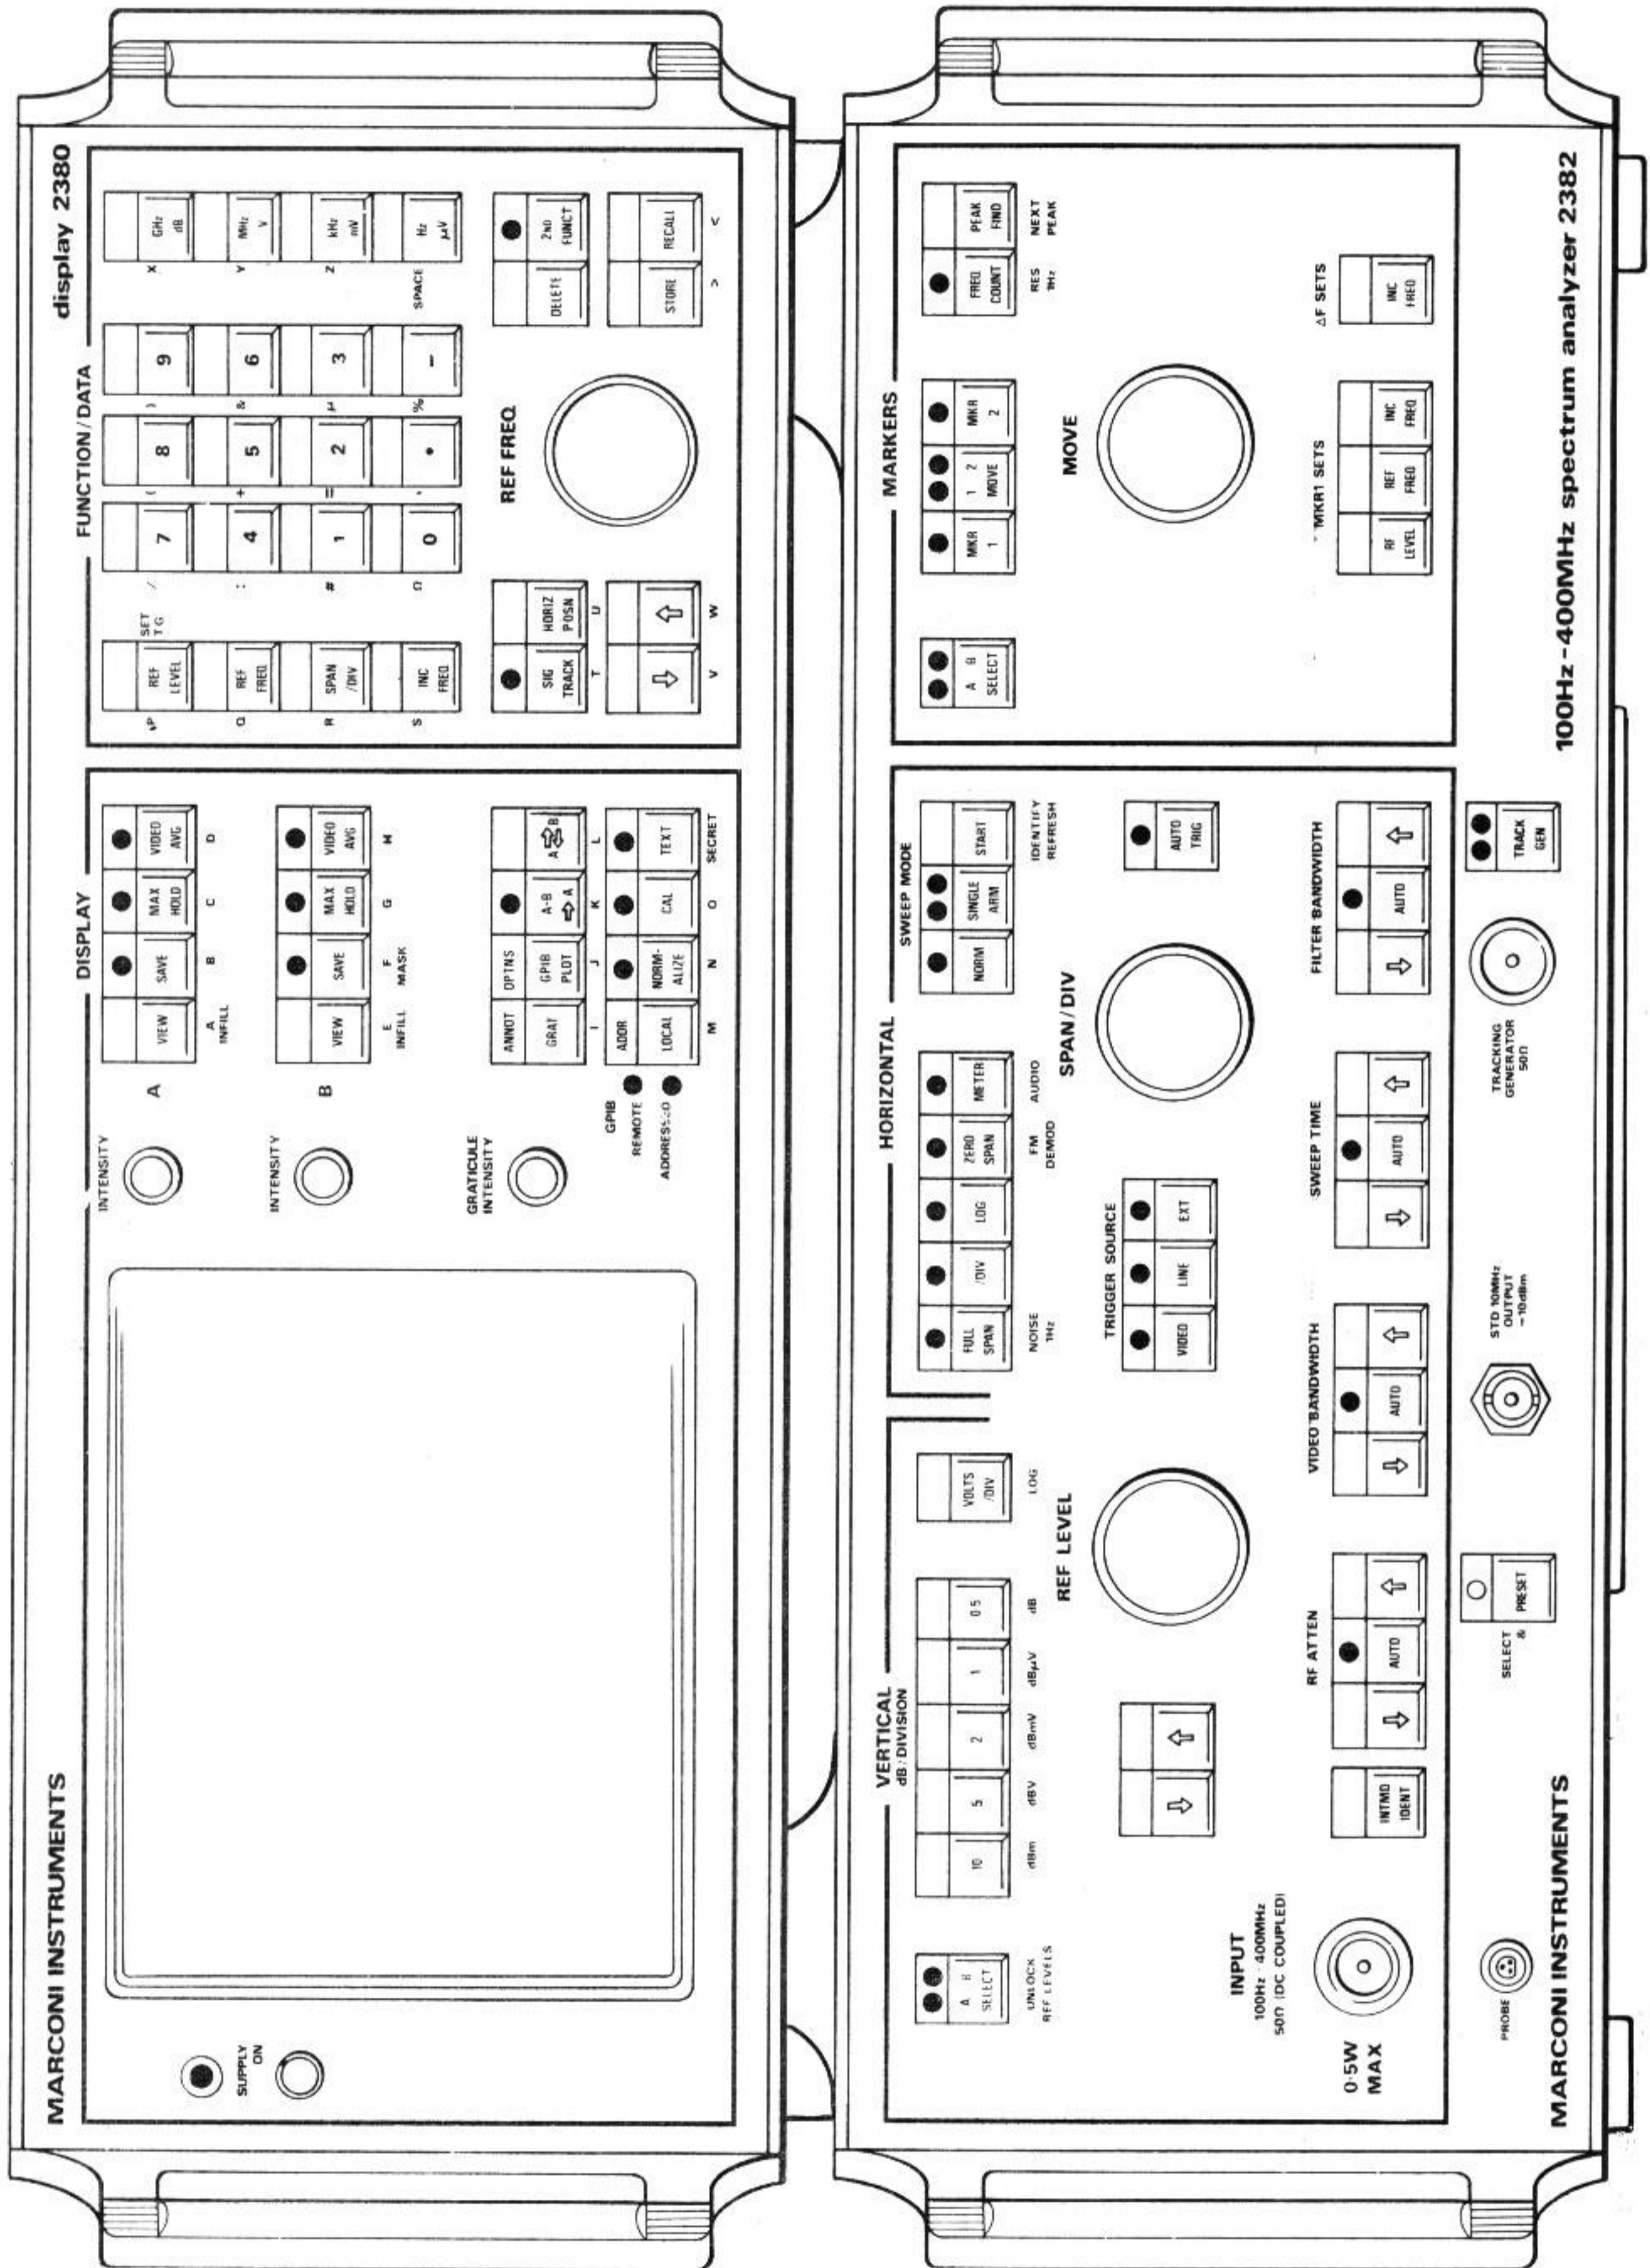

Fig. 1 The 100 Hz - 400 MHz Spectrum Analyzer
1. The 2382 Fig. 1 is an exceptionally versatile general purpose spectrum analyzer for use from 100 Hz up to 400 MHz. Although simple to operate it has many functions which make it an indispensable tool in research, development, production, installation, commissioning and maintenance. It analyzes signals by separating them into their frequency components and the power or voltage level of each is displayed as a function of frequency, on a c.r.t. Further facilities such as the display of a modulated signal, the recovery of a modulating signal, the provision of a tracking generator etc. are also available.